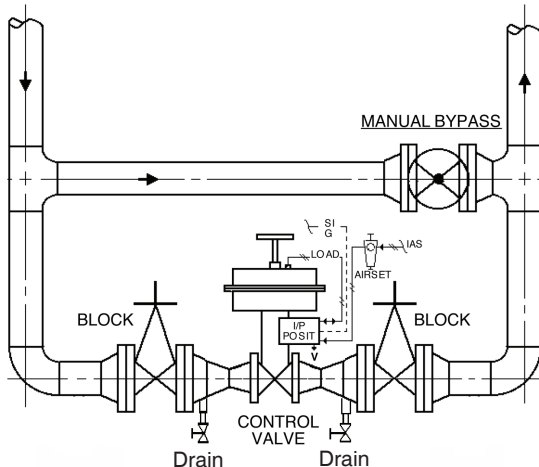

Figure 1: Typical Control Valve Station
1. It is recommended that the control valve unit be installed with a double-block and bypass as indicated in Figure 1. This arrangement is recommended especially where maintenance will be done on the valve body while still installed in the pipeline.
2. Recommend startup to be in a "manual" mode. This procedure assumes double block (isolation) and bypass valves for the "control valve station". See Figure 1.